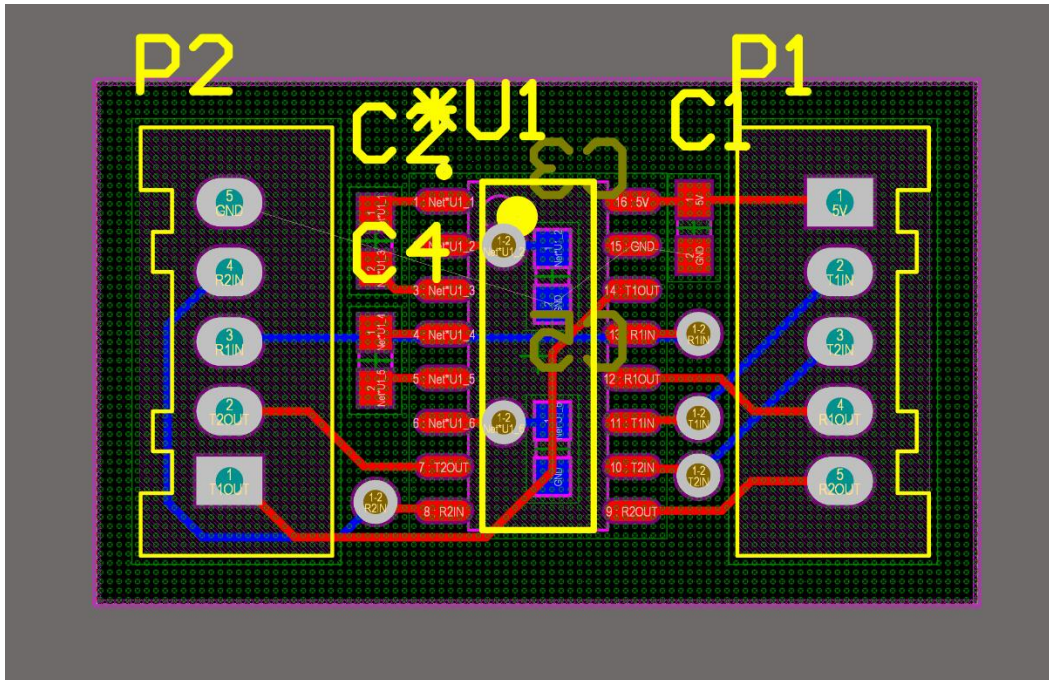

Figure 10: Result of Defined Net
12. Your pour should now look like Figure 10. Do not be concerned by the green x's, we will deal with them in the next step.